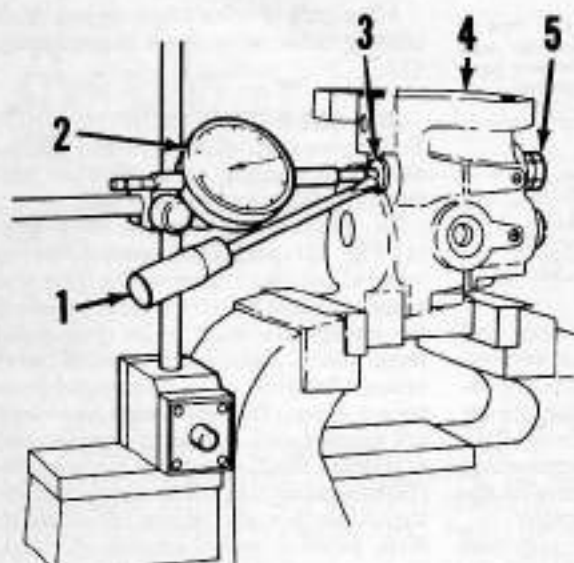

Fig. 222—View showing dial indicator position to set spool movement.
**399. SELECTAMATIC CONTROL VALVE SPOOL ADJUSTMENT.** Place selectamatic valve in a vise and mount dial indicator so probe contacts valve spool end as shown in Fig. 222. Push spool into valve against spring pressure until it stops, set dial indicator to zero, slowly allow spring pressure to push spool back out of bore. Note amount of movement shown on dial indicator. Compare amount of movement with dimension etched on end of spool. If movement is greater than given dimension, tighten nuts (5—Fig. 222). If movement is less, loosen nuts (5). Repeat procedure until movement is no more than 0.254 mm (0.001 inch) greater than given dimension. Securely tighten nuts (5) in this position.